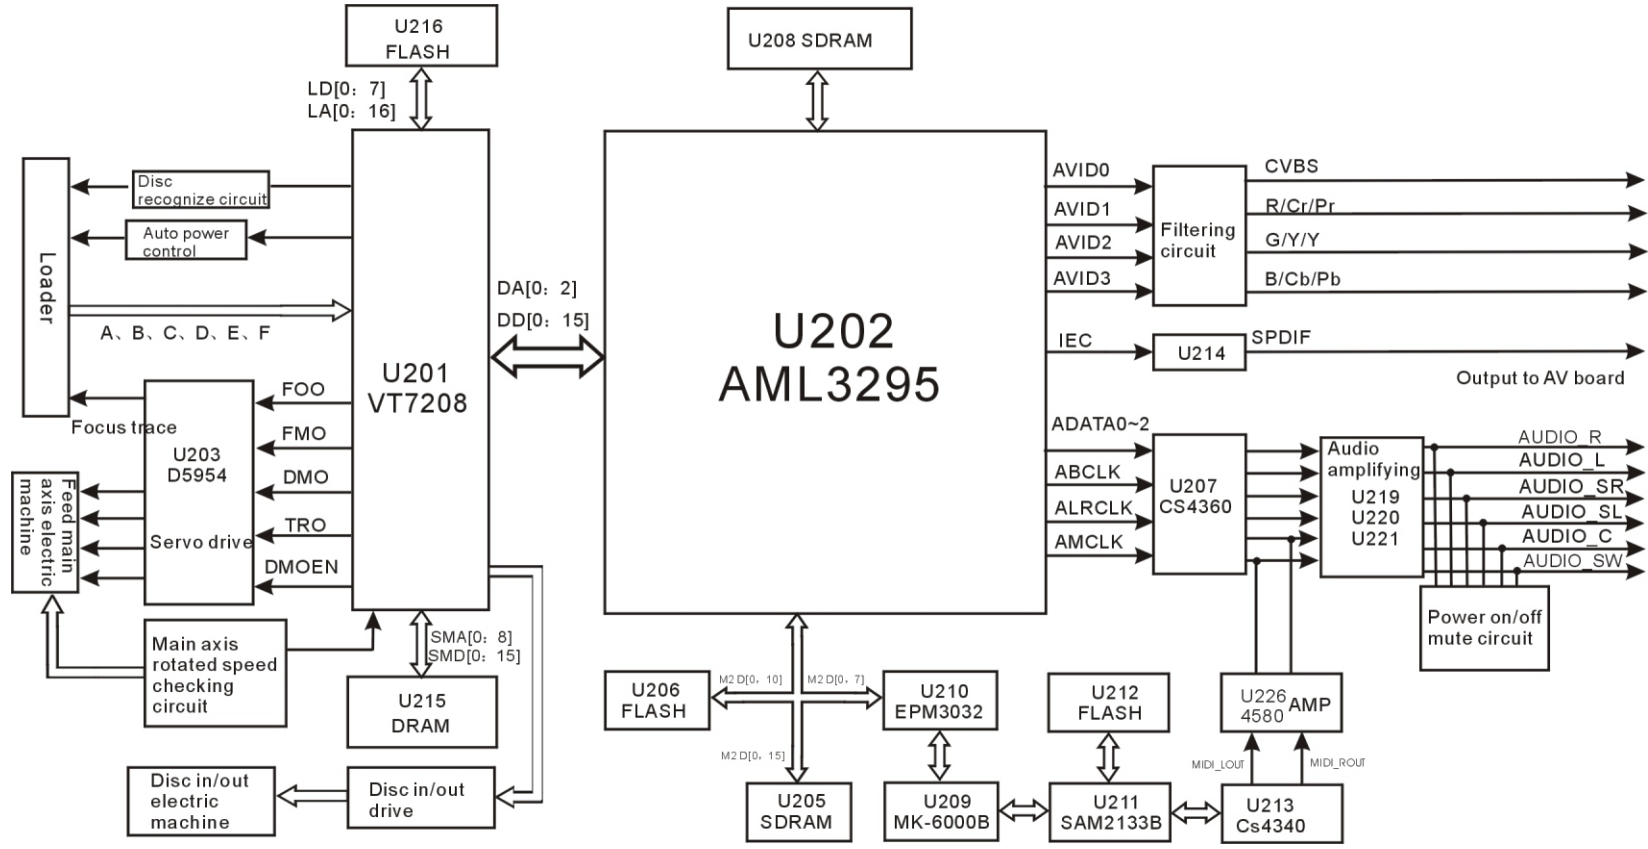

Figure 3.2.2.1 Decode circuit block diagram
1. Decode circuit block diagram is shown as the following figure 3.2.2.1: